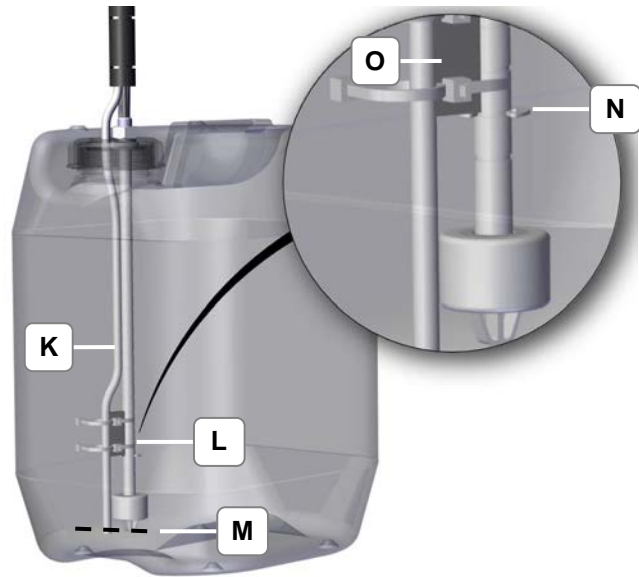

Figure 4.5.5: Water hose and cable
<ul style="list-style-type: none"> The trouble-free functioning of the pump operation is guaranteed when water hose (K) and cable (L) are set to the same level (M) (Figure 4.5.5)-